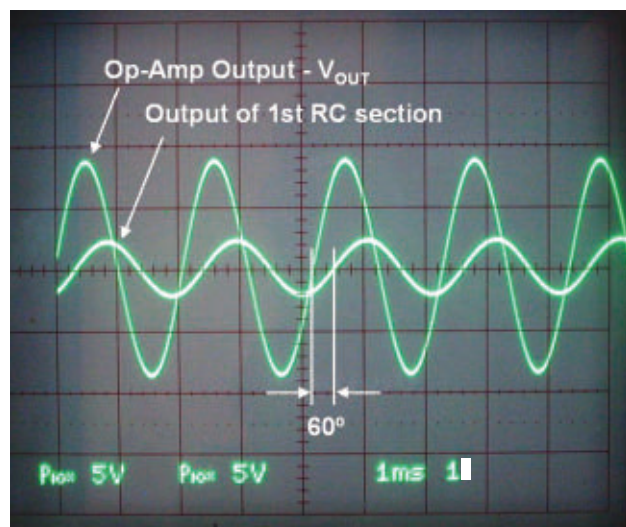

FIGURE 3. The oscilloscope traces show the output signal from the op-amp and the smaller phase-shifted signal at the output of the first RC filter section.
- undistorted sine wave that peaks a volt or so below the power supply voltages as seen in **Figure 3**. (This may be a touchy adjustment with a single-turn pot.) If you have a dual-channel oscilloscope, observe the input and output voltages of each RC section, and verify that each contributes approximately 60° .